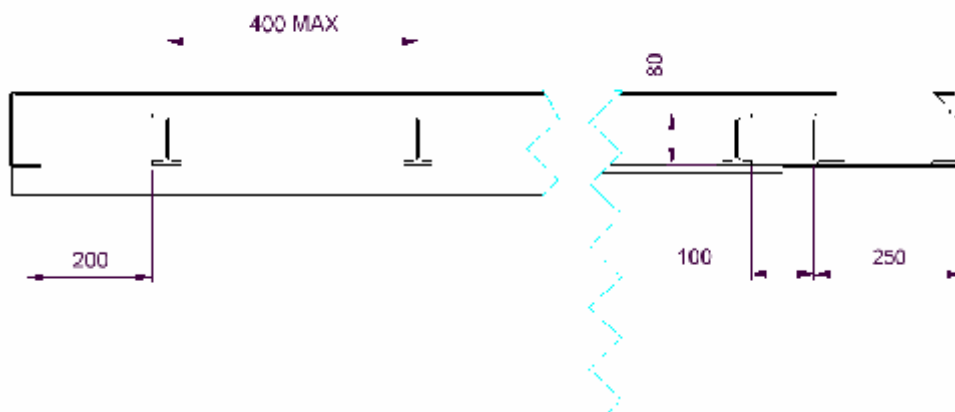

fig. 1
- The cross beams should have a height of at least 80 mm.(fig.1)
- The centre distance between the cross beams should be not more than 400 mm.(fig.1)
- At the rear side of the chassis the space between the last cross beam and the rear side profile should measure 100 mm.(fig.1)
- At the front side of the chassis the space between the last cross beam and the front side profile should measure not more than 200 mm.(fig.1)
At the rear of the chassis a set plate should be mounted with a width of 250 mm. and a height, equal to the height of the cross beams.(fig.1)